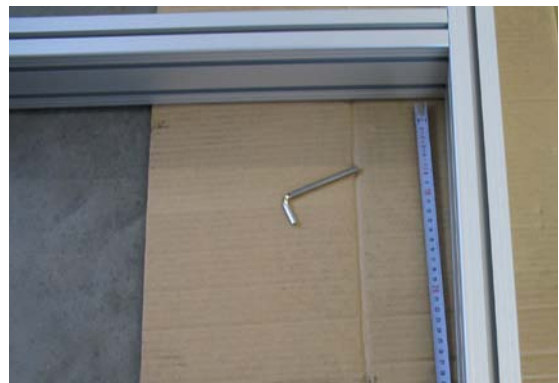

fig. 3.1-6
**Step 5** Measure the distance between the frame base profiles **A1c** and **A1d** zueinander. The distance has to be 42 cm (16.54 inch) between the inner edges. Once you have fastened the frame base profiles **A1c** and **A1d** you can strongly bolt together all other profile connectors (ca. 25 Nm). (fig. 3.1-6).